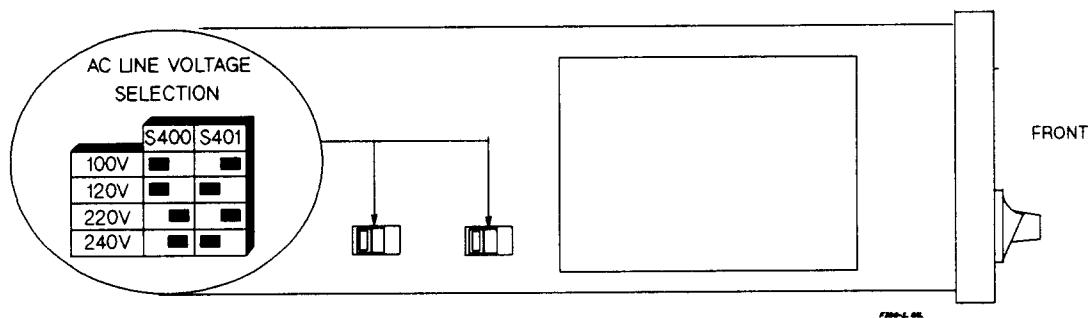
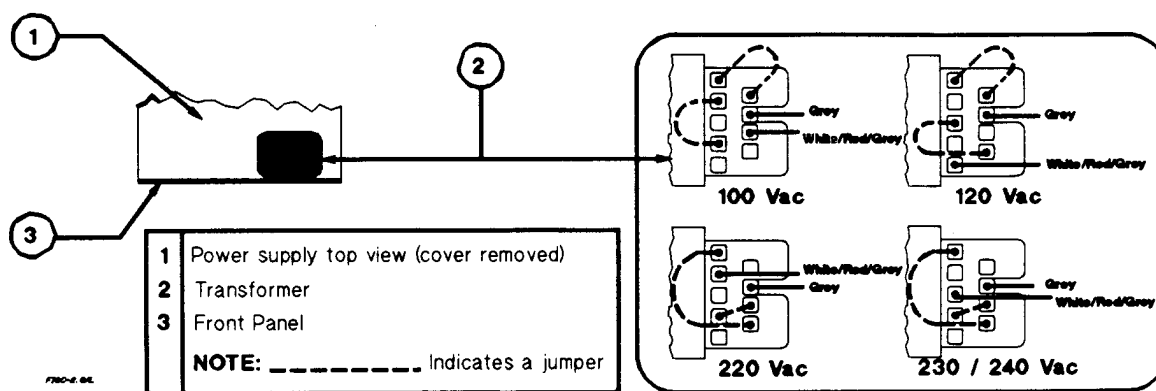

Figure C-1. Series 664xA Line Select Switches
Figure C-2. Series 665xA Line Select Jumpers
4. Slide the dustcover back far enough to expose the select switches (see Figure C-1) or the line select jumpers (see Figure C-2).